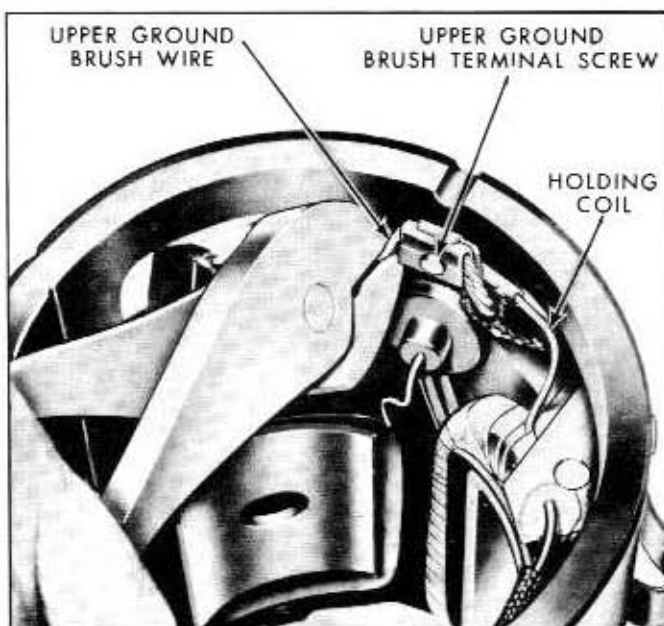

Fig. 10A-35—Upper Ground Brush Wire Terminal—(60C-7693)
6. Cut the upper ground brush wire at the terminal block as shown in figure 10A-35.
7. Remove the upper and lower ground brush terminal screws and remove the lower brush. Refer to figure 10A-33.